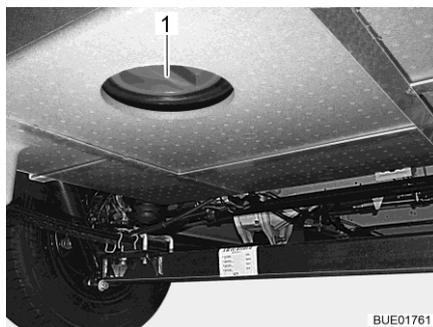

Fig. 198 Cleaning opening (waste water tank)
- Open the cleaning opening (Fig. 198,1) on the waste water tank and the drain cock.